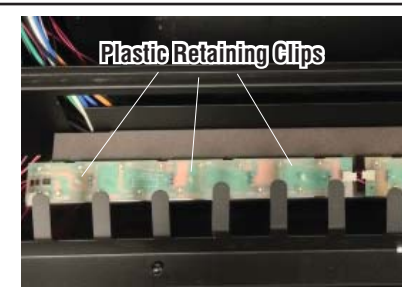

Figure 14
- ii. Using needle-nose pliers, squeeze the plastic clips holding the LED strips in place and push them through the holes in the LED strips (see **Figure 14**). Unclip the wires from the LED strips and remove them. Insert new LED strips and reconnect the associated wiring.